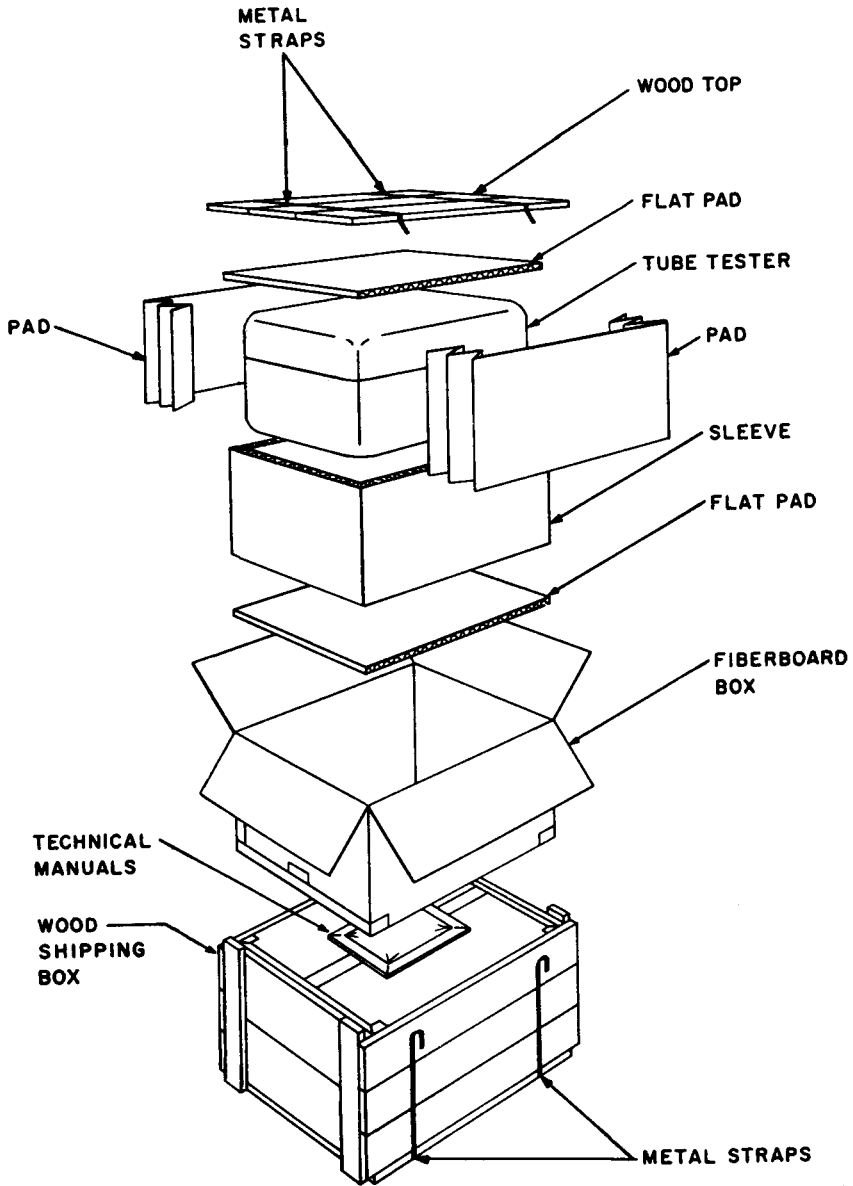

Figure 2. Typical packaging.
a. **Packaging Data.** When packed for shipment, the tube tester is cushioned on all surfaces and placed within a water-resistant fiberboard box. The fiberboard box is sealed with water-resistant tape and placed within a wooden shipping box. Spare tubes, lamps, and fuses are placed in their designated positions within the tube tester (figs. 1 and 8). The technical manuals are packed within a close-fitting bag fabricated of waterproof wrapping paper. The bag is securely sealed with waterproof pressure-sensitive tape. The wooden shipping box is strapped only for intertheater shipment. A typical wooden shipping box and its contents are shown in figure 2.
- (1) The inside dimensions of a wooden shipping box that contains a tube tester is approximately $19\frac{1}{4}$ by $18\frac{1}{4}$ by $10\frac{3}{4}$ inches.
- (2) The outside volume of the tube tester packed in a wooden shipping box is 2.16 cubic feet, and weighs 60 pounds.